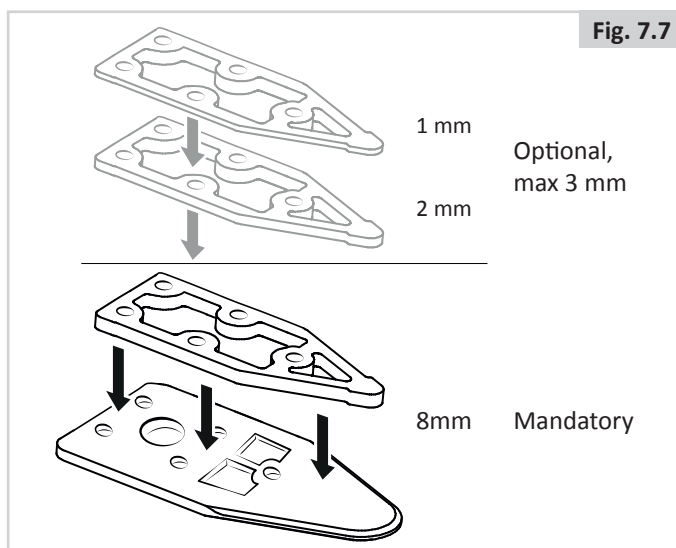

Fig. 7.7
2. Use more spacers to achieve desired thickness with regards to, for instance, user weight and tire pressure. Additional spacers can be mounted under the locking station (Fig. 7.7). To align the height of the lock plate under wheelchair with the docking station fit spacers between the docking station and the vehicle floor to raise the docking station.